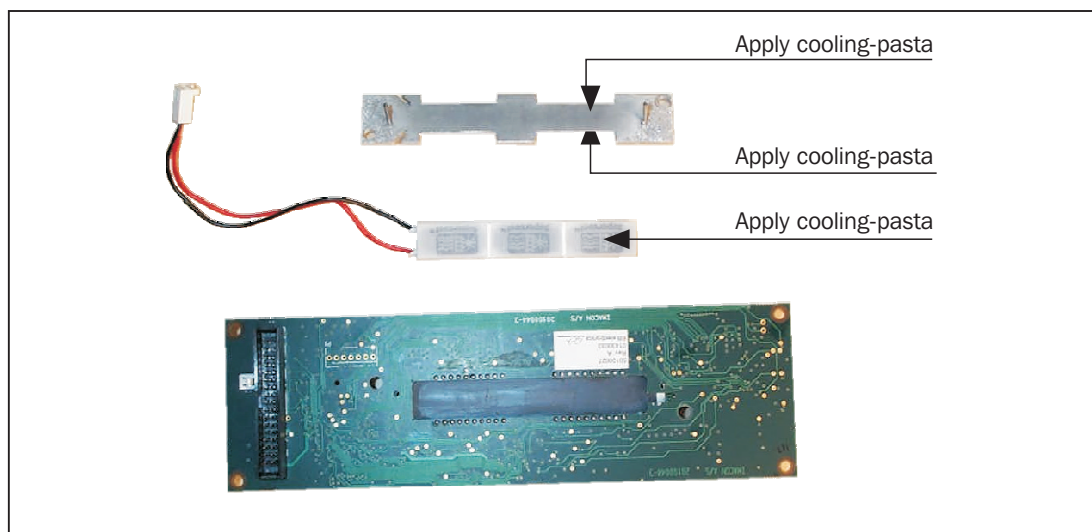

Figure 5.6: Applying cooling pasta
15. Apply a thin, even layer of cooling-pasta on the surfaces indicated in Figure 5.6. Use i.e. a small piece of cardboard to disperse the pasta evenly on the surfaces.